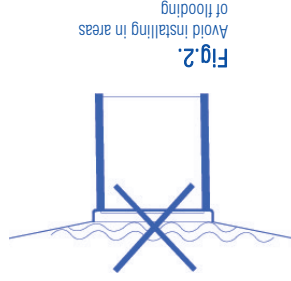

Fig.2.
- Never install your luminaire in a dip in the ground or in an area of localised flooding. This is to avoid pooling of water over the top of the glass. (see Fig.2)